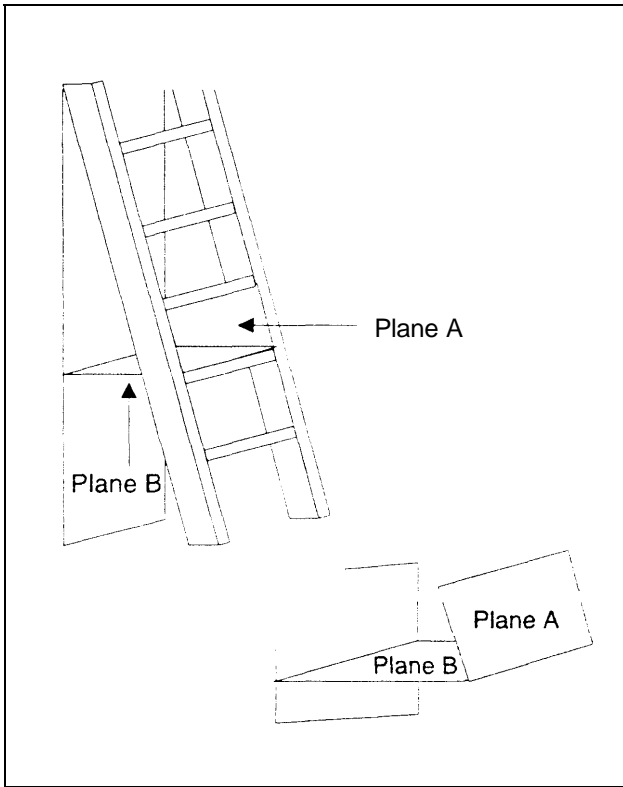

Figure 4-7: Opening with limited depth.
a vertical opening (A) and a horizontal opening (B) (fig 4-7). The inspection "procedure emulates a child crawling into the vertical opening feetfirst and passing downward through the horizontal space. To pass the inspection, the vertical opening (A) will not permit the torso probe to pass through it, or the torso probe may pass through the vertical opening (A), but not the horizontal opening (B). If the torso probe passes through both openings, the head probe will also pass through both openings.
(1) *Inspecting vertical opening (A) with the torso probe.* The torso probe should be used to inspect the vertical opening (A). The probe should be held parallel to the opening. The inspector will attempt to insert the probe into the opening. If the probe does not fit into the opening when rotated in any direction, the opening is not a potential entrapment and requires no further inspection. If the torso probe does pass through the opening, the inspector will inspect the horizontal opening (B) with the torso probe.
(2) *Inspecting horizontal opening (B) with the torso probe.* The torso probe should be held horizontally with the longest end of the tool against the edge of the vertical opening (A). The inspector will attempt to insert the probe into the opening. If the probe does not fit through the opening, the space is not large enough for a child to completely enter it. It is not an entrapment. If the torso probe does pass through the horizontal